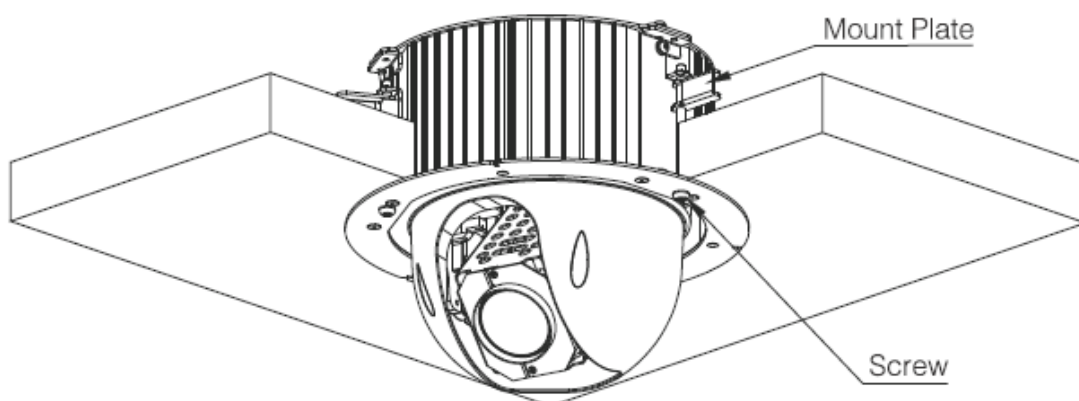

Figure 3-7
- 2) Connect the composition cables and then put the cables to the hole you just dug. Push the in-ceiling bracket and the speed dome components to the hole. Secure the screw and fasten the mount plate. See Figure 3-7.